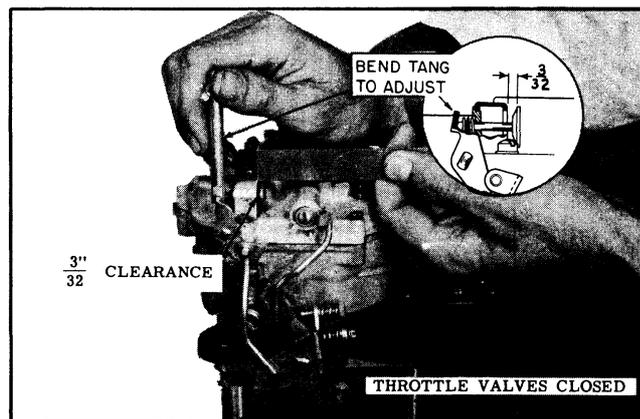

Fig. 8-141 Idle Vent Adjustment
1. With the throttle valves completely closed, measure the distance from the air horn casting to the leading edge of the idle vent valve. (See Fig. 8-141)